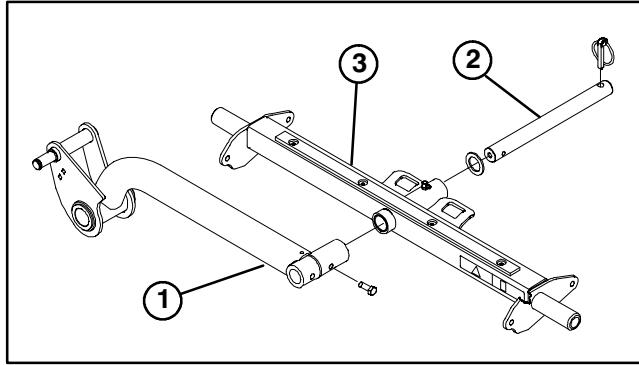

Figure 5
1. On rear cutting unit only, remove lynch pin and thrust washer securing carrier frame to lift arm pivot shaft (Fig. 5). Slide carrier frame off pivot shaft.
2. Remove screw and securing lift arm pivot shaft to lift arm (Fig. 5). Remove and discard pivot shaft.